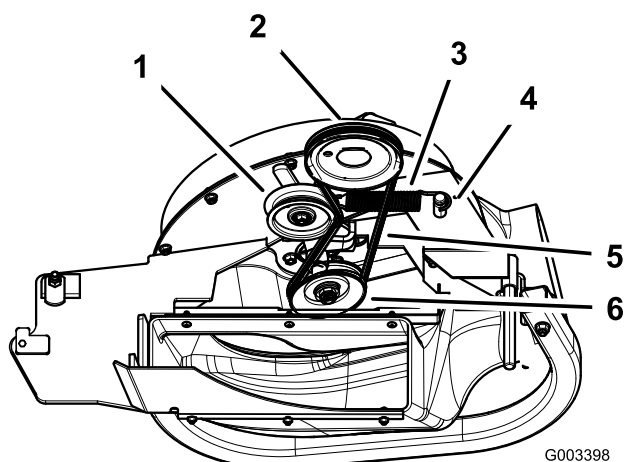

Figure 12
1. Install the belt around the blower pulley (Figure 12).
2. Install the spring to the idler arm and the peg on the blower assembly (Figure 12).